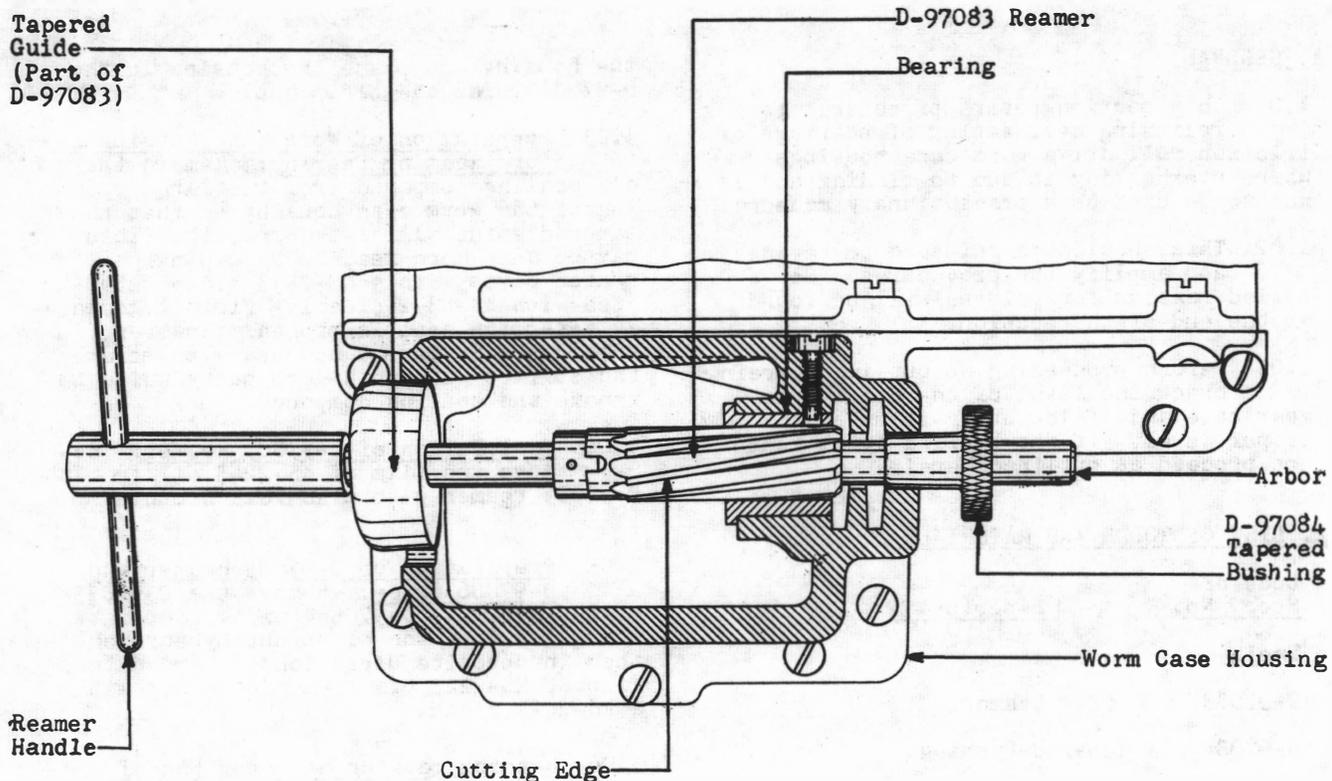

Fig. 1 - Reaming Bearing at Motor End of Worm Case Housing
3.06 Reaming Bearing at Motor End of Housing: Insert the D-97083 reamer into the worm case housing through the large opening and slide it through the bearing until the small end of the arbor of the reamer protrudes through the small opening at the motor coupling end approximately 1/2". Telescope the D-97084 tapered bushing over the arbor and press it into the small opening as shown in Fig. 1. Then press the tapered guide on the reamer into the large opening in the worm case housing, finger tight. Ream the bearing to about 1/3 its depth by turning the handle of the reamer slowly in a clockwise direction. Then with the tapered guide still in place carefully remove the reamer from the bearing still turning it in a clockwise direction. Remove any chips that may adhere to the reamer with a KS-2423 cloth. Reinsert the reamer into the large opening in the housing and continue the reaming operation as outlined above until about 2/3 the depth of the bearing has been reamed. Remove and clean the reamer as outlined above after which it should be reinserted in the housing as outlined above only this time continue the reaming operation until the shoulder of the reamer handle bears against the tapered guide. Remove and clean the reamer as outlined above. Remove the D-97084 tapered bushing.